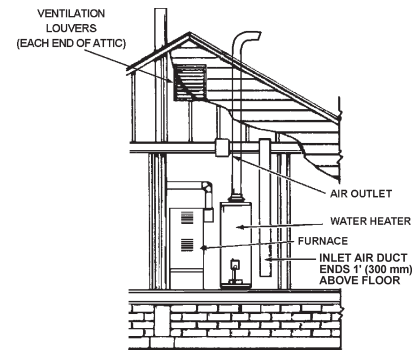

FIGURE 8.
2. When communicating with the outdoors through vertical ducts, each opening shall have a minimum free area of 1 square inch per 4,000 Btu per hour ($5.5 \text{ cm}^2/\text{kW}$) of total input rating of all equipment in the enclosure, see Figure 8.